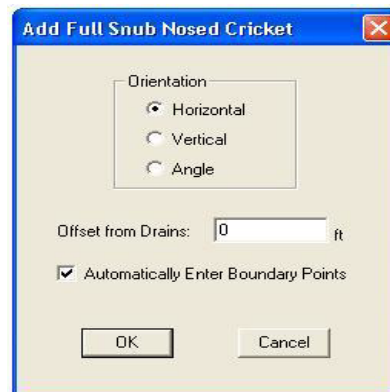

Figure 3–21 The Add Full Snub Nosed Cricket dialog box.
2. In the Orientation area, click Horizontal, and in the Offset from Drains box, type 1, as shown in Figure 3–21. Make sure **Automatically Enter Boundary Points** is checked.
A window opens showing a picture of a full snub-nosed cricket and highlighting the next point, as shown in Figure 3–22.